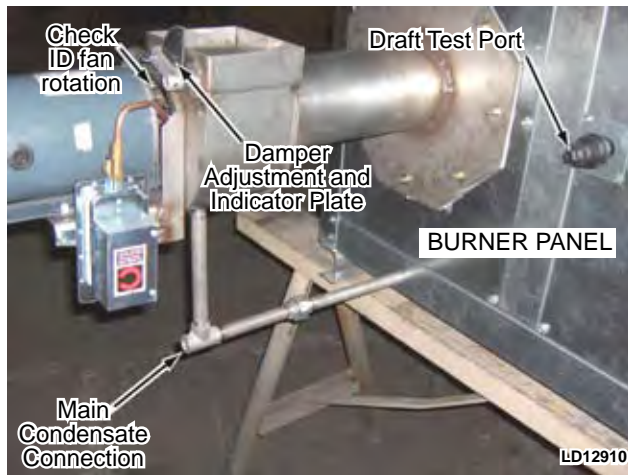

FIG. 3-15 – SET ID FAN DAMPER
7. The flue (stack) damper is located at the discharge of the ID blower and closed for shipping. Release the locking mechanism and set the damper to match the position indicated by the scribed markings. Lock in place (see Fig. 3-15).
12. Connect a manometer or other suitable device to the Heat Exchanger Draft Port located on the side of the unit near the burner. The expected draft should read slightly negative – about -.03" WC. The draft port is typically made of 3/4" steel pipe and may be plugged. Remove plug and add a small stop valve and a nipple for a rubber tube (see Fig. 3-15 & 3-17).